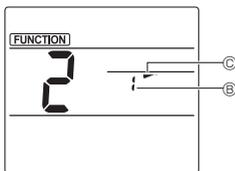

Fig. 5-2
- Press the **MENU** button ②.
- In the Function setting screen, press the **DOWN** button ④ and select function No. "2".
- Press the **SET** button ③.
- The vane number ⑥ blinks. (Fig. 5-2)
- Press the **DOWN** button ④ to select the vane number.
- The airflow direction setting ⑦ blinks. (Fig. 5-2)
- Press the **DOWN** button ④ to select the airflow direction at which you want to fix the vane.